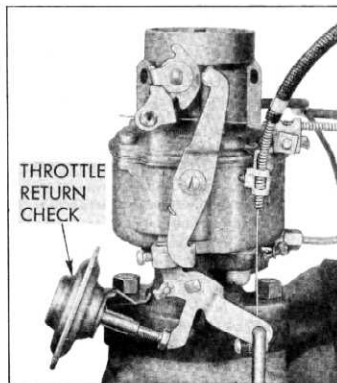

Fig. 90—Throttle Return Check
A Throttle Return Check is used in conjunction with the carburetor assembly used on the 1950-52, 235 cubic inch passenger car engine. This unit (fig. 90) is designed to retard throttle closing, gradually slowing the engine down from a fast idle to the normal idle speed when the throttle is closed.
1. Install carburetor and throttle return check assembly on engine manifold as shown in Figure 90.